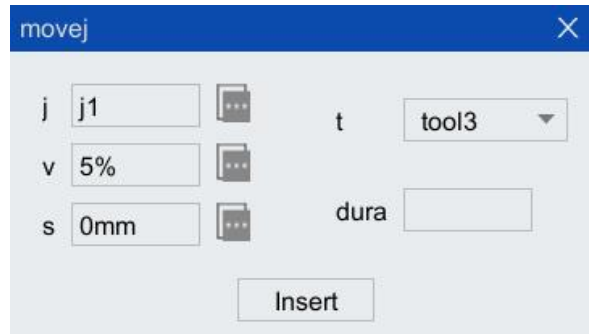
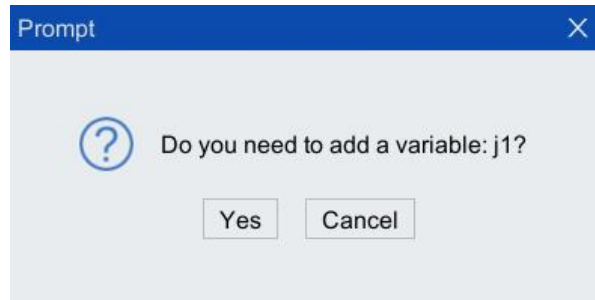

Figure 5-11 "movej" instruction box
Figure 5-15 "Are you sure to create the variable j1" dialog box
Step1. Click " " icon in the toolbar of the program editor to pop up "movej" instruction box, as shown in Figure 5-11.
- Step6.** Click <Insert> button shown in Figure 5-11 to pop up "Are you need to create the variable j1" dialog box in Figure 5-15, and click <Yes> button. The instruction is inserted successfully.
Step5. Click <Insert> button in Figure 5-18 to pop up "Are you sure to create the variable p1" dialog box, as shown in Figure 5-15. Click <Yes> button, and then the instruction will be inserted successfully.